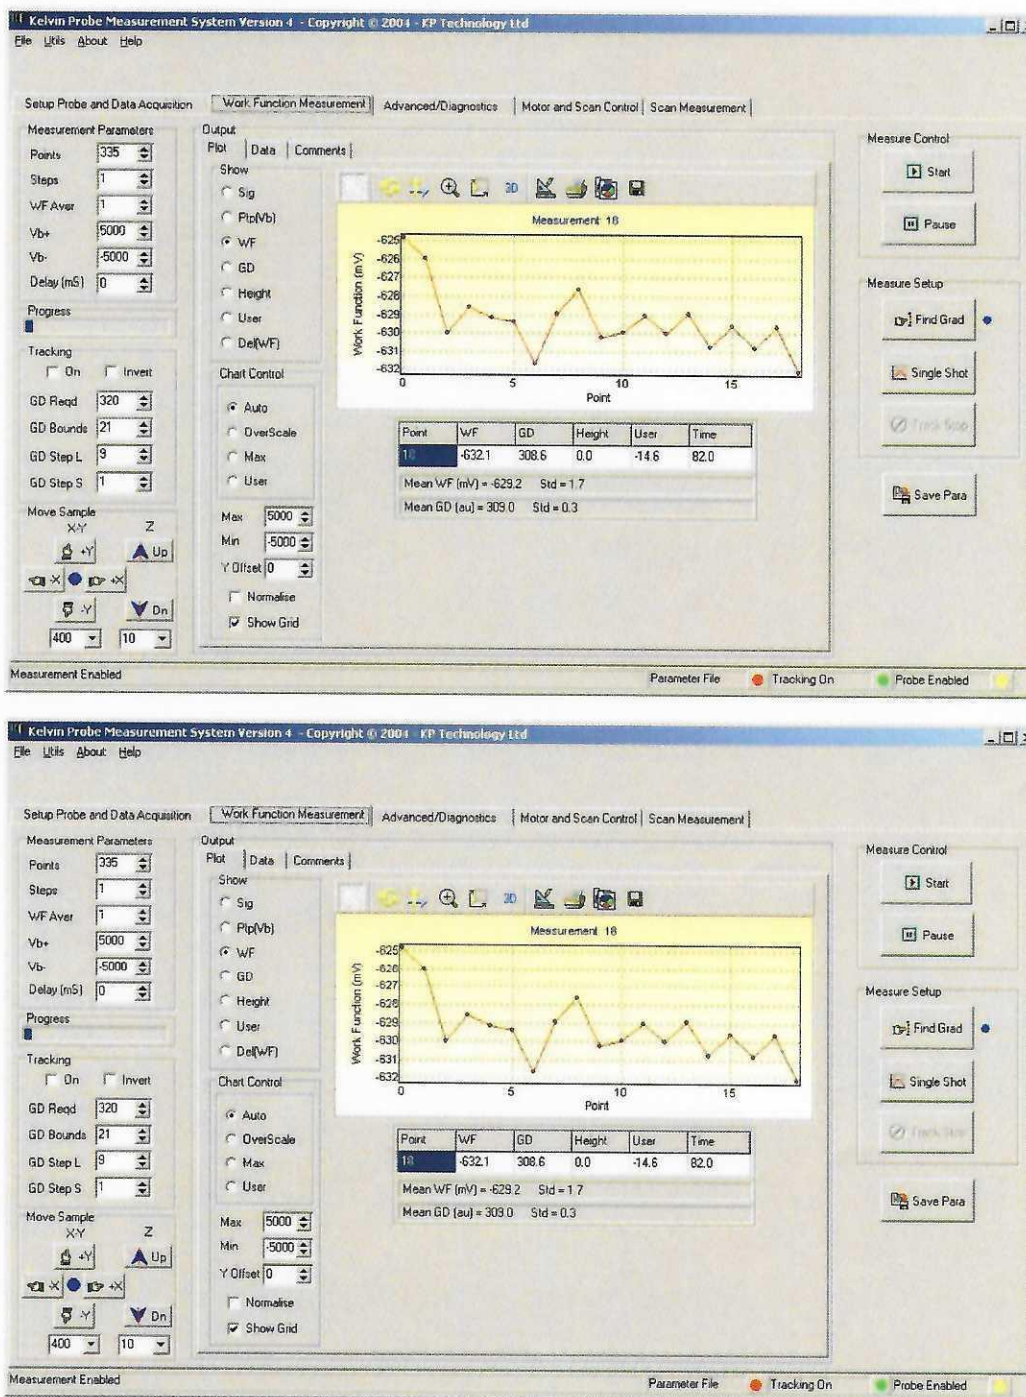

Figure 18. The Measurement Page showing the WF Chart (top) and associated GD data (bottom).
3. Switching to the Measurement page perform a Single point measurement, with WF Averaging and Steps parameters both set to 1. The WF and Gradient Data will appear in the analysis box and the data table underneath the plot, see Figure 18 (top).